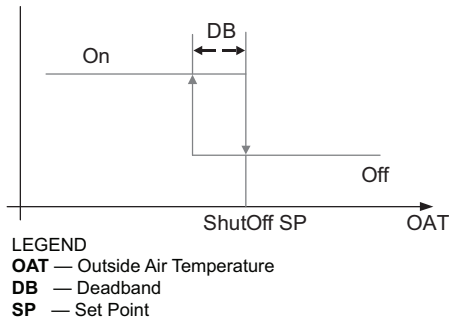

Fig. 38 — Hysteresis Settings
Hysteresis setting (DB) defaults to 2°F (–16.6°C). See Fig. 38.